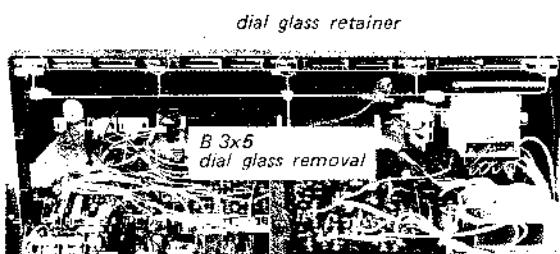

Fig. 2-3. Dial glass removal
2. Remove the five screws securing the dial glass retainers as shown in Fig. 2-3.